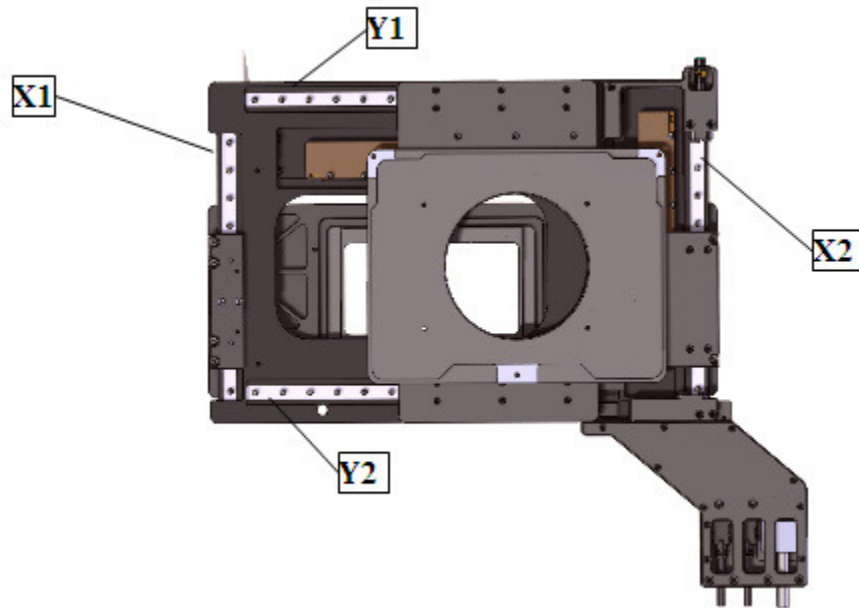

Fig. 8.2.1 Face-down LMT260 with linear bearings and lubrication points
- Remove the "old" grease from the linear bearing X1, X2, Y1, Y2 (see Fig. 8.2.1) with a cloth. Move both axes in order to do this properly.
- Apply a small amount of the grease to the eight specified points shown in Fig. 8.2.1